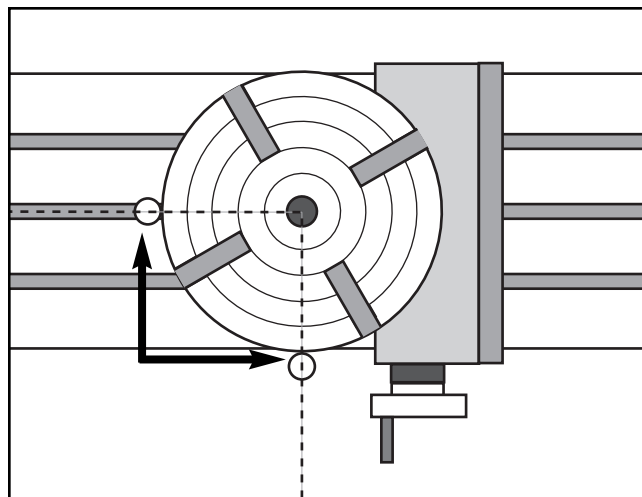

Figure 2. Locations for edge finding.
2. Use an edge finder, like the Model H2939, to locate the center of the rotary table by contacting two outside edges (**Figure 2**) and then moving the mill table half of the rotary table diameter in both directions. Note—*Make sure to account for radius of the edge finder and use a precision measuring instrument when determining the diameter of the rotary table.*